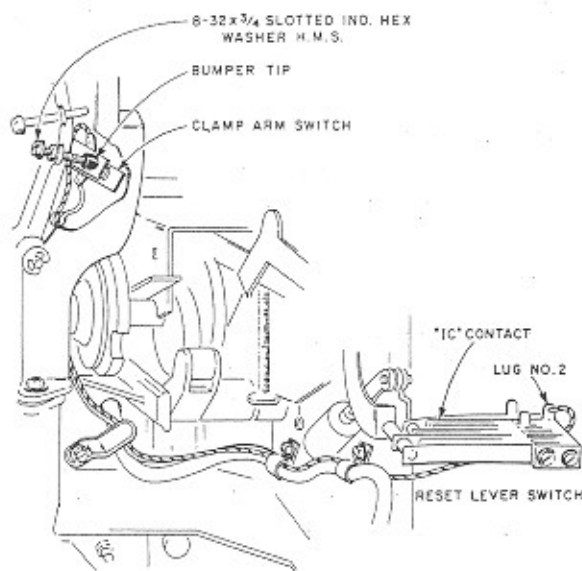

Figure 3. Clamp Arm Switch Rewiring
3. Add a wire from the switch terminal vacated in step 1 to the lower (No. 2) IC contact of the Reset Lever Switch and route as shown in *Figure 3*.